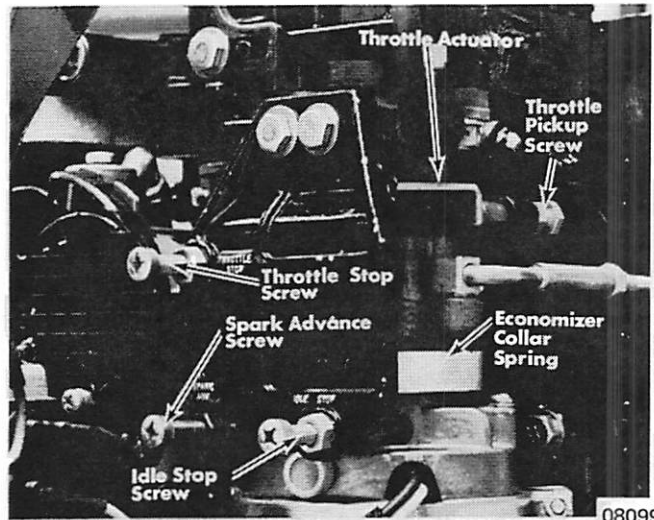
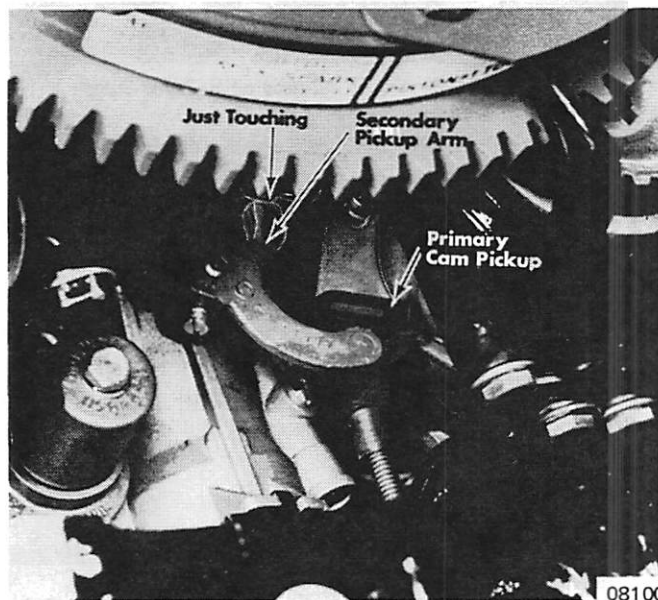

Figure 6. Adjusting Throttle Pickup Screw on Throttle Actuator
Figure 7. Adjusting Secondary Throttle Pickup
1. With distributor against spark advance screw but not actuating the economizer collar spring, adjust the secondary throttle pickup screw on throttle actuator (Figure 6) so that it just touches secondary lever on carburetor cluster. (Figure 7) Tighten locknut.
2. Advance throttle to wide open position and adjust throttle stop screw (Figure 6) to allow full throttle shutter opening with sufficient clearance to prevent throttle linkage damage (approximately 1/32" [.8mm] is sufficient). Tighten locknut and recheck clearance.